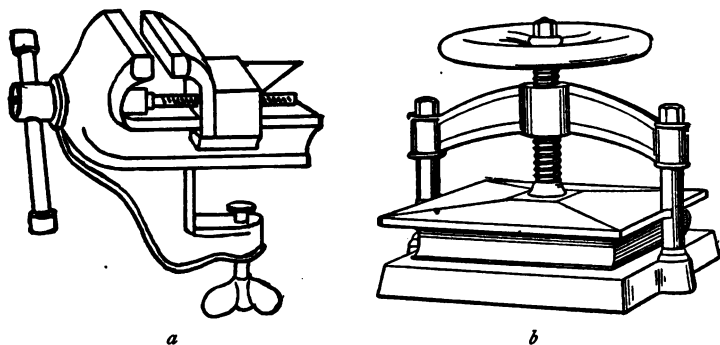

FIG. 268.—EXAMPLES OF THE SCREW, (a) VISE, (b) LETTER PRESS
plane. As examples of the simple lever we have the can opener, grass clippers, and tack lifter; of the crank and axle we have the bread mixer and coffee grinder; of the pulley the wheels over which the supporting ropes pass as a window moves up or down in its frame (see Fig. 268). An example of the simple inclined plane is found in a plank one end of which is higher than the other, or in a sloping road. The knife edge, axe, and
**288. Screw.** In this machine, as exemplified in the vise and the letter press (Fig. 268), the object sought is one of greatly increased pressure. The acting force passes through a considerable distance, while the resistance is overcome through a short distance. When the handle of the vise or the letter press is turned once, the screw advances the distance between two successive threads. This distance is called the *pitch* of the screw-